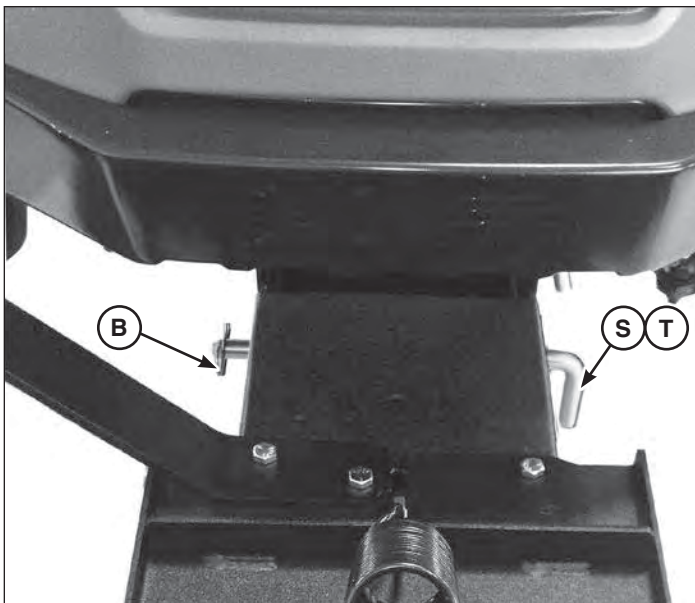

Figure 14
12. Move the hitch latch rod (S, small frame / T, large frame, Figure 14) through holes from step 11, and attach the rod with a hair pin (B).